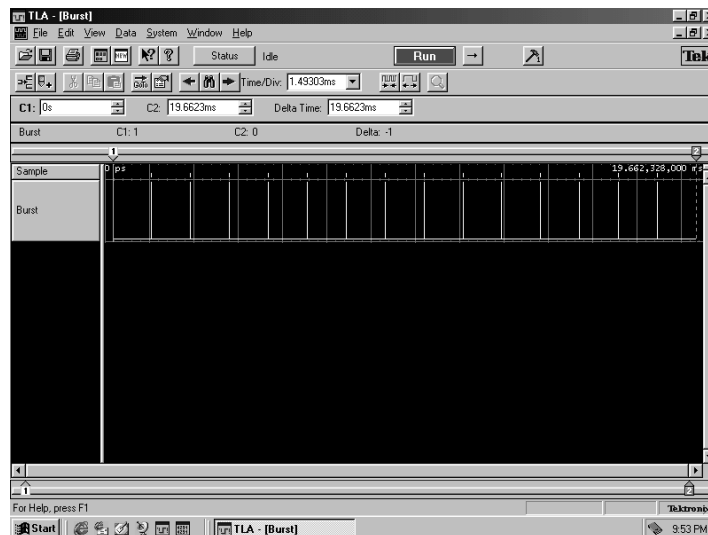

Figure 2–25: Timing waveform using transitional storage for Exercise 5
4. The waveform window should look similar to Figure 2–25.